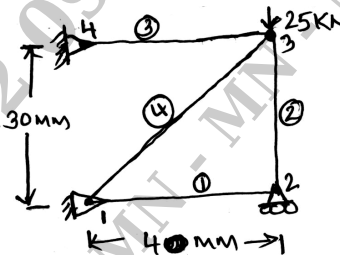

Fig Q4
- 4 A four bar truss element as shown in Fig Q4, determine nodal displacement and stress in each element. Area = 100mm² E = 2 × 10⁵ N/mm²